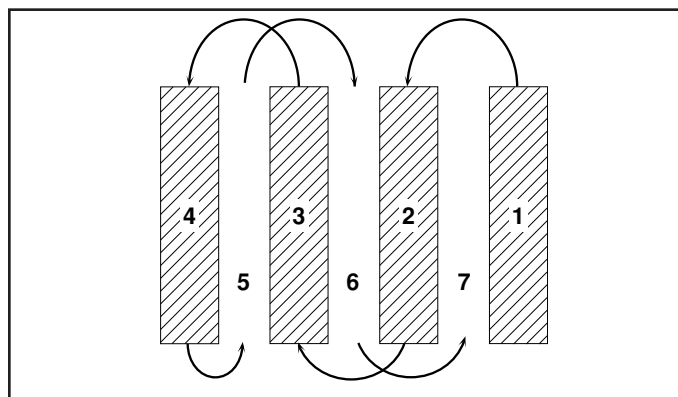

FIG. 8
- You will find tilling much easier if you leave a row untilled between passes. Then go back between tilled rows. (See Fig. 8) There are two reasons for doing this. First, wide turns are much easier to negotiate than about-faces. Second, the tiller won't be pulling itself, and you, toward the row next to it.